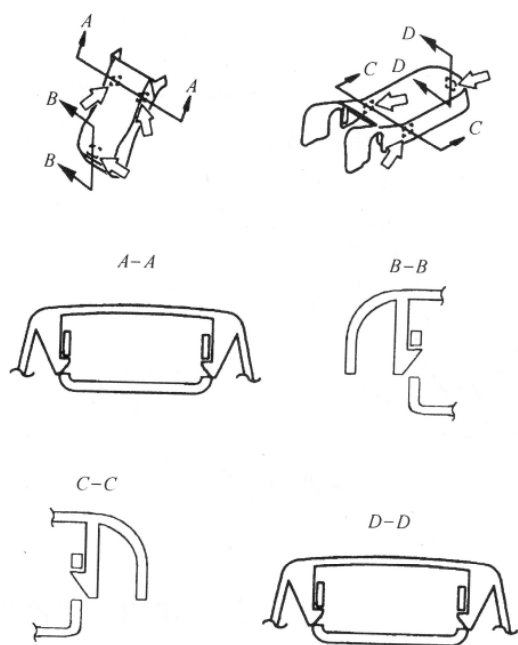

Fig. 18-14
(1) Installation of seat trim see Fig.18-14.